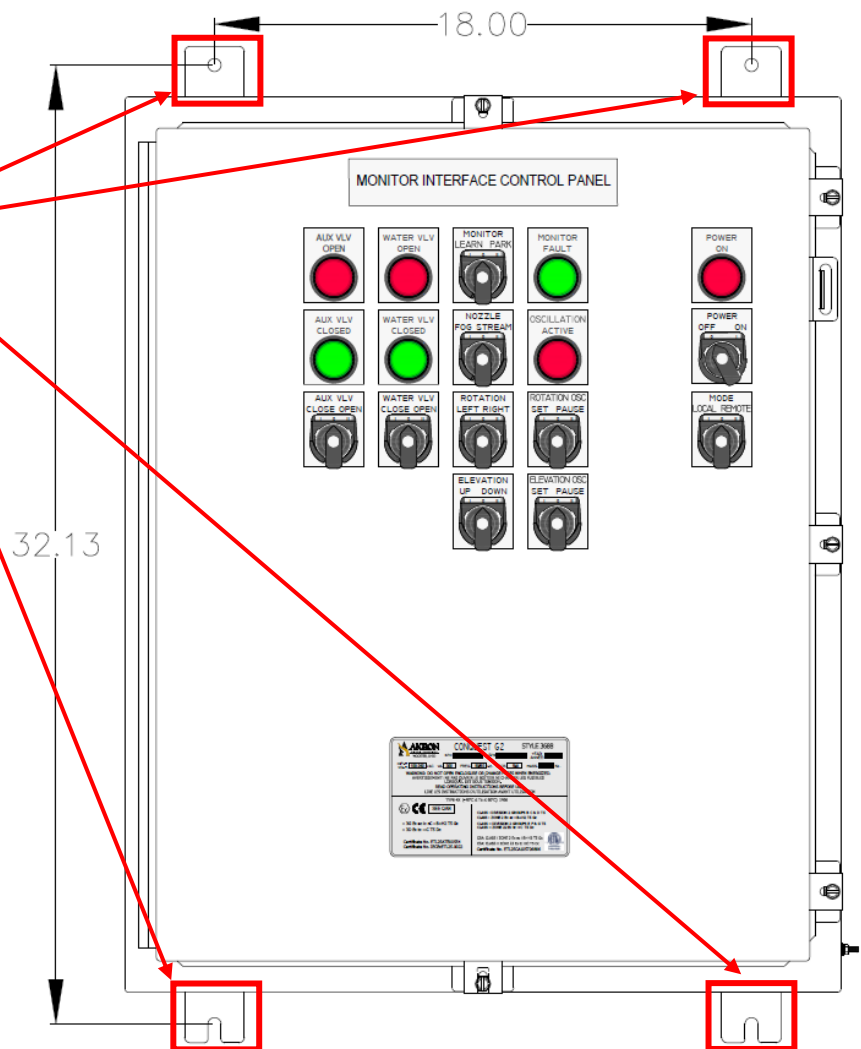

Figure A-1
- The MICP™ enclosure has four (4) mounting pads with .44" (11.18mm) diameter holes. See **Figure A-1**
- Mounting hole centers are 18" (457.20mm) horizontal by 32.13" (816.1mm) vertical. See **Figure A-1**
- Use (4) 316 S.S. 3/8" or M10 mounting bolts to secure the MICP™ enclosure. See **Figure A-1**
- Use (4) 316 S.S. 3/8" or M10 mounting bolts to secure the MICP™. See **Figure A-1**